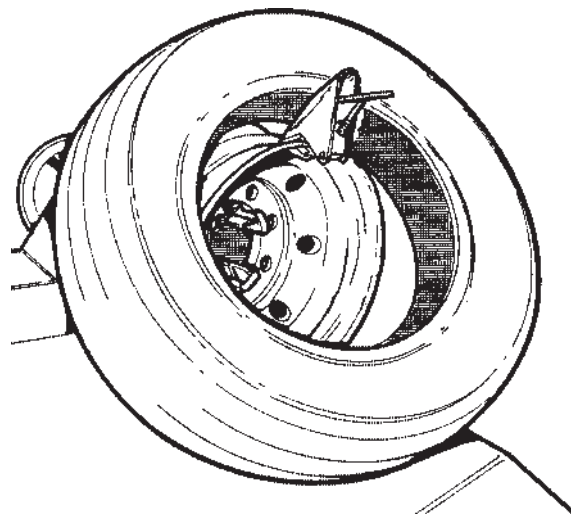

Fig.18
2. Move the chuck arm all the way down. Roll the tire on the footboard and hang it onto the mounting clamp (Fig.18).